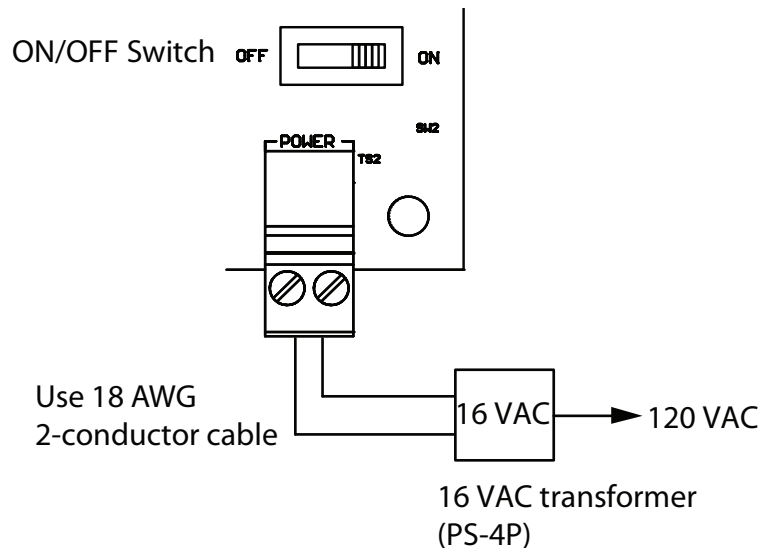

Figure 13. Connecting the PS-4P power supply
2. Connect the PS-4P power supply wires to the power terminals as shown in Figure 13.